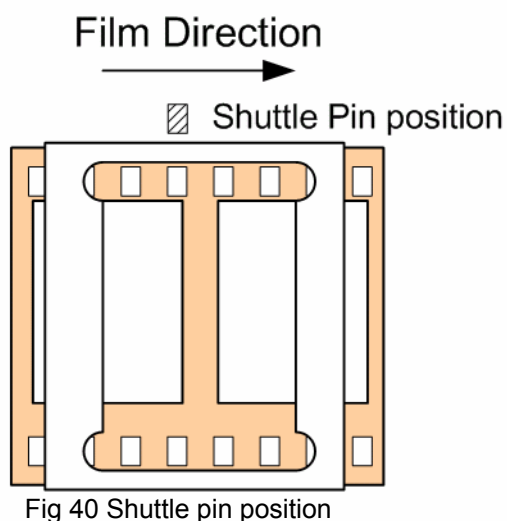

Fig 40 Shuttle pin position
5. Centre the film loop between the sprockets and align the film frame bar in the centre of the aperture plate just to the right of the shuttle pins (as in Fig 40/41 below) Release the gate lace latch (Fig 36) gently lowering the shuttle pins into the film's perforations. Lightly rock the film to verify that the pins are fully located in the film perforation. (See *Gate Lacing* below for more details)